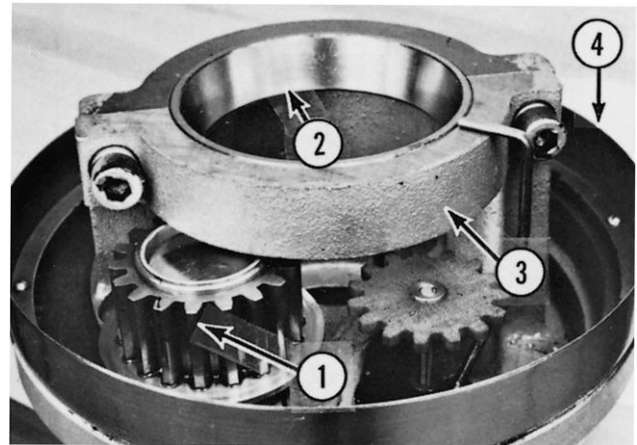

**Fig. 10-14**
J. Seal the retaining cap with Permatex #2 and install it into the pinion (1, Fig. 10-14).
K. Install the bearing cup (2, Fig. 10-14) and bearing cap (3, Fig. 10-14) using the two socket head screws.